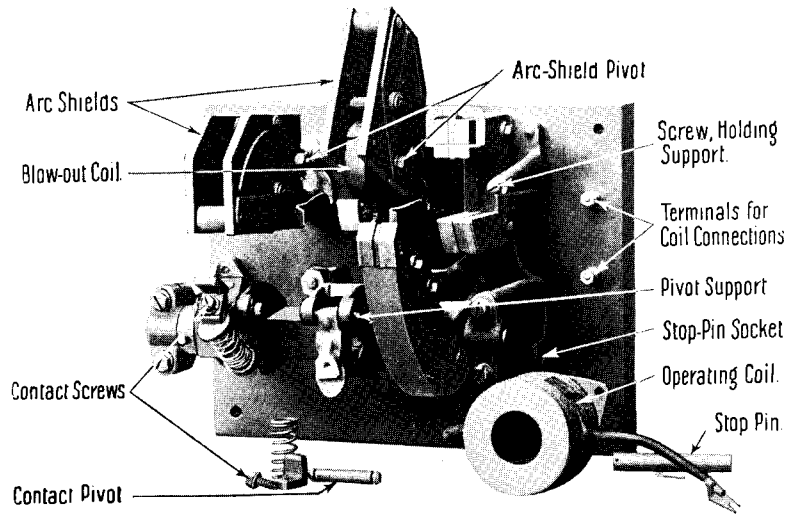

Fig. 6—125-Ampere Contactor
12. **To remove the contacts** it is only necessary to take out the contact screws (Fig. 6). Those of small size are held in place by one screw; larger ones have two screws. The contact screws should be replaced by new ones whenever a new set of contacts is installed.
14. **The pivot** on which the moving contact turns, can be removed easily and without the use of tools. Fig. 6 shows one style of pivot. This is held in its support by snap pins at each end. It can be removed by taking out the snap pins and pushing it out of the support. Another style of pivot is used on large sizes. This kind is held in place by a small pin which
15. **The arc shields** shown in Fig. 6 are hinged so that they can be lifted to expose the contacts. Should an arc shield need removing it can easily be replaced by removing the arc shield pivot, taking off the old shield and slipping on a new one in its stead.
16. **Blow-out coils**, shown in Fig. 6, are used on all line contactors, but those in the secondary circuit of the motor, as a rule, do not require them. They are riveted and soldered to the stationary contact support and in case of accident are replaced with the support with which the coil is always furnished.
19. The removal of an operating coil is simple. The stop pin is first pushed out after removing a cotter pin from either end. This allows the armature to fall back, as shown in Fig. 6, so that the two screws holding the coil can be removed and the two connecting leads unfastened. The coil can then be slipped off the magnet core.